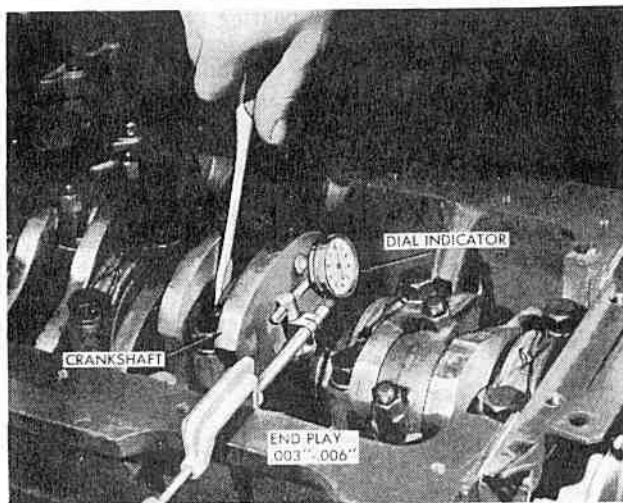
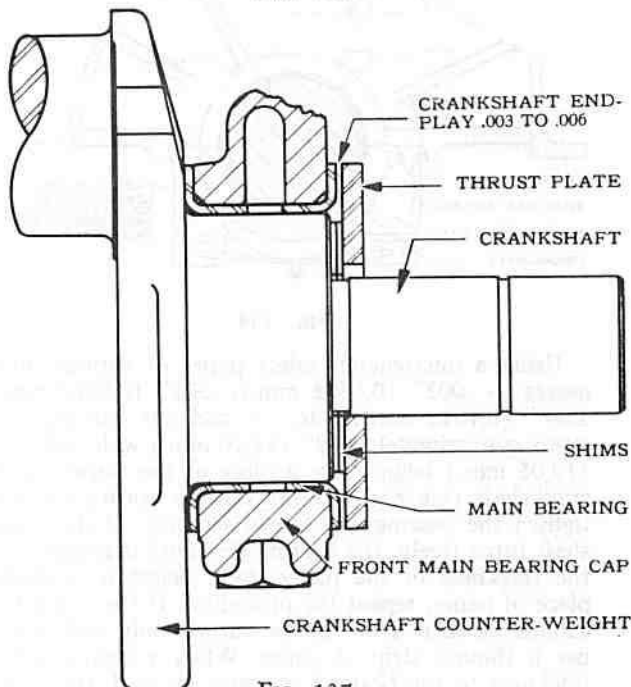

FIG. 136
FIG. 137
**CHAMPION AND COMMANDER** Crankshaft end play should be from .003" to .006" (0,0762 mm. to 0,1524 mm.). To check the end play, mount a dial indicator on the block so that the indicator button contacts a counterweight on the crankshaft. Then, using a screw driver, obtain an end-play reading by moving the crankshaft forward and rearward (see Fig. 136). End play is controlled by shims located between the vertical surface of the front main bearing journal and the crankshaft thrust washer (see Fig. 137). Add or remove the necessary number of these shims to obtain the correct end play.